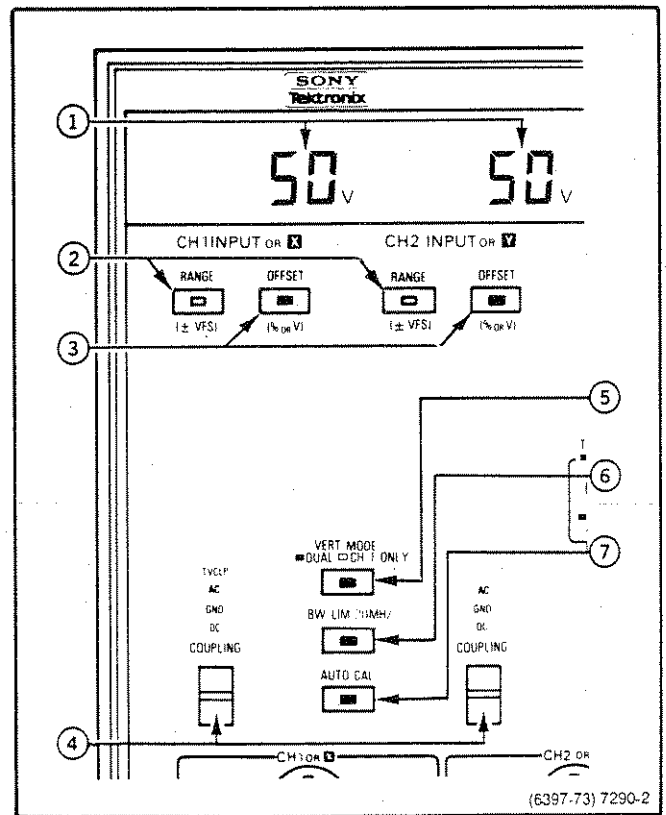

Fig. 3-3. Vertical section of front panel.
Refer to Fig. 3-3 for location of items 1 through 7.